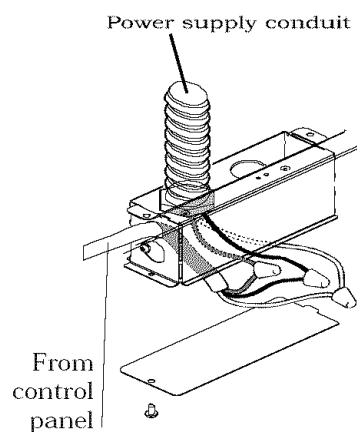

Figure 7
- Remove the j-box cover as shown in **Figure 7**.